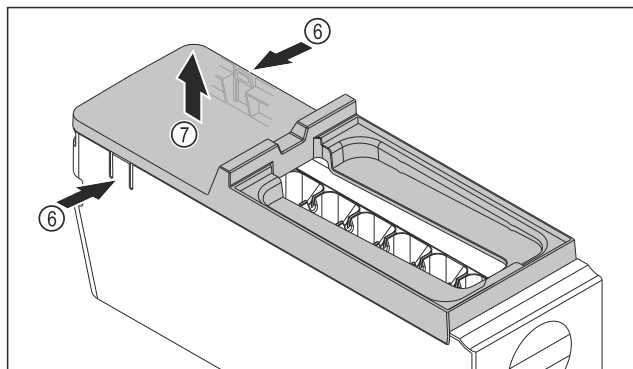

Fig. 89
- Removing the EasyTwist-Ice body cover: Push the tabs Fig. 89 (6) on both sides of the EasyTwist-Ice body with one hand.
- Use the other hand to remove the cover Fig. 89 (7) upwards.